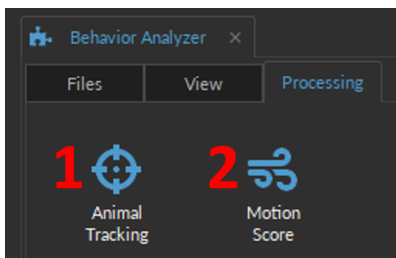

Figure 11.6: Behavior Analyzer, Processing tab
The **Processing** tab (Fig. 11.6) includes two behavior measurements, which will be treated in the following sections:
- *Animal Tracking* (Fig. 11.6, 1) - Section 11.3.1
- *Motion Score* (Fig. 11.6, 2) - Section 11.3.2